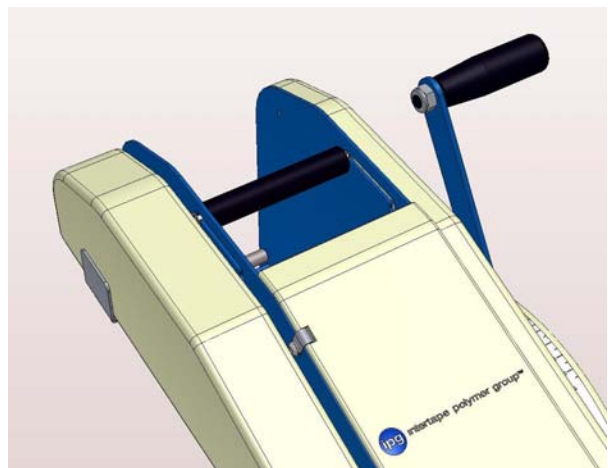

Figure 7-2
2. Reverse the handle to the position shown in **Figure 7-2**